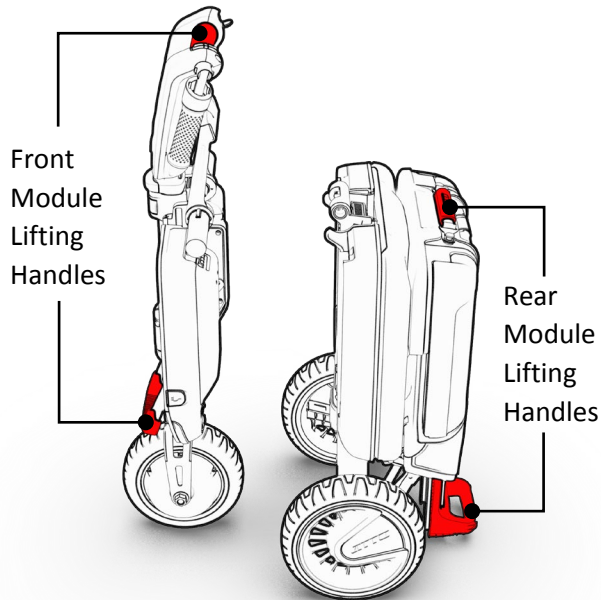

Figure 53 – lifting points
2. Grab the one of the chassis from designated handles and carry it to its destination (See Figure 53).